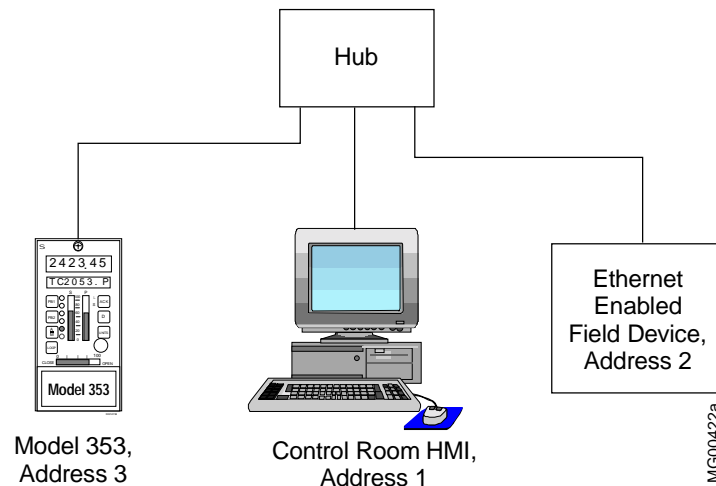
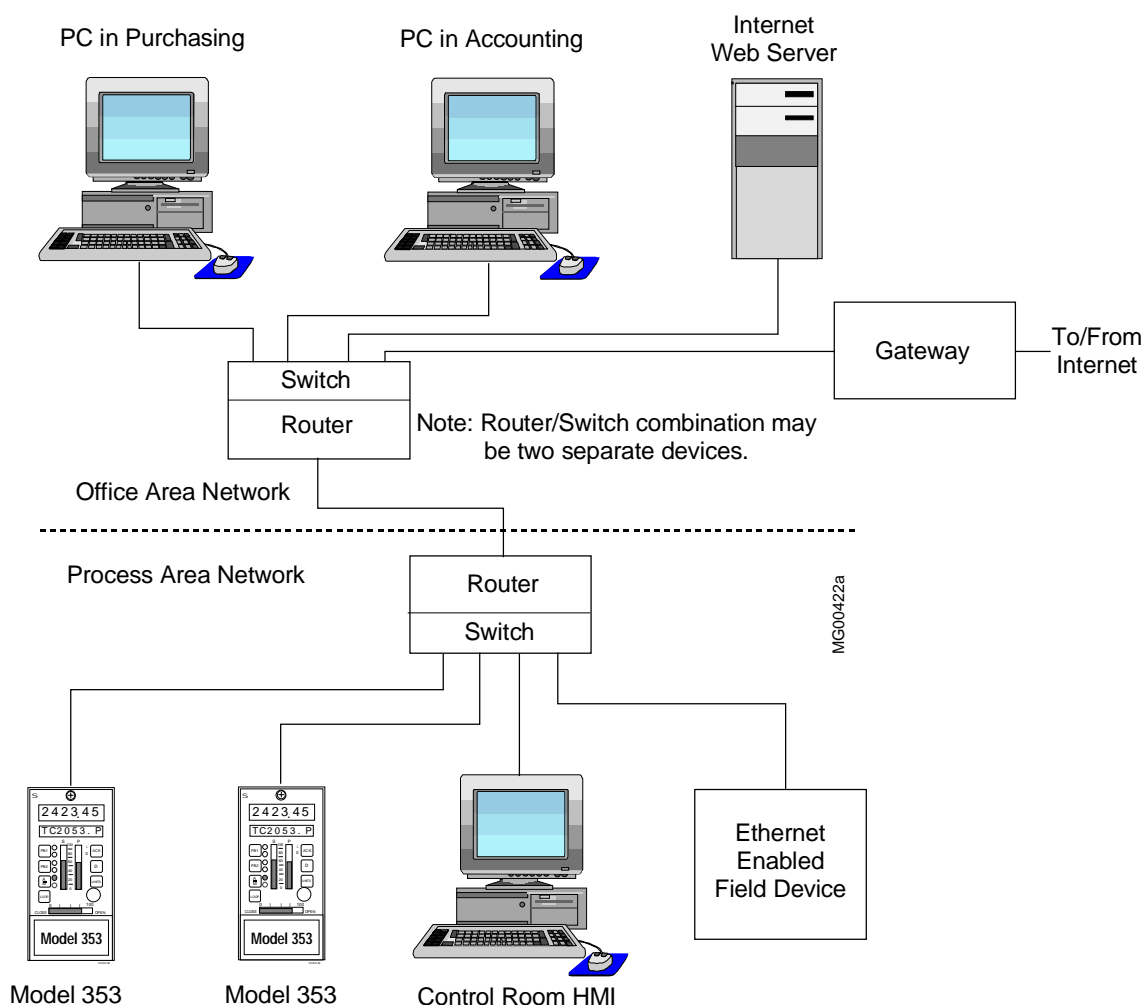

FIGURE 1 Hub-Based Ethernet Network
FIGURE 3 Ethernet Network with Router and Gateway
Unlike Modbus, Ethernet communication supports peer-to-peer communication because it permits all devices, known as hosts in Ethernet parlance, to initiate communication. In Figure 1, three hosts are connected together through a hub forming a network. Any host can send a message through the hub to the other hosts. However, only one host at a time can send a message. If two hosts do send messages at the same time, the messages collide and become unreadable.
The manner in which hosts are connected together to create a network is referred to as the network topology. This includes the cabling of the network-connected hosts and the use of hubs, switches, routers and gateways to accommodate that cabling and create the desired network structure. Figures 1 and 2 show simple networks. Figure 3 shows two networks connected through a router. These arrangements or topologies will be discussed in this section.
Each host connected to a network must have a unique identifier known as an address -- equivalent in purpose to your home address. In Figure 1, the addresses are 1, 2, and 3. A message can be sent, for example, from the HMI at address 1 to the controller at address 3; the field instrument at address 2 will receive the message but ignore it since the message was not addressed to it. This is point-to-point or peer-to-peer communication. Broadcast communication allows a host to send a message to all other network-connected devices.
In Figure 1, a hub is used to connect the controller, field instrument, and HMI. The hub is simply a central point to which a number of hosts, often as many as 8-12, can be electrically connected. Every message sent by a host is sent to every other connected host but read by only the addressed host. The hub distributes the message but, since it is a passive device, it cannot direct the message only to the addressed host.
A router is used to connect together networks of the same type, for example, two Ethernet networks. Figure 3 shows two routers with built-in switches connecting a process area network to an office area network. The office network includes the purchasing and accounting departments, and a web server and gateway with a security firewall for access to the Internet. A router can read an address and route a message to the proper network and to the addressed host. In addition, a router isolates the networks and can usually prevent a problem on one network from affecting other connected networks. Network performance and reliability are significantly improved.
Every host on a network needs a unique address. In Figure 1, addresses 1, 2, and 3 were used. The Internet Protocol (IP) uses a 32-bit addressing structure. An example of an IP address is 192.168.0.2. Notice that the complete address is written as four numbers in a dotted-decimal notation, i.e. the four decimal groups are connected together by three dots. Each decimal number has a range of 0 to 255.